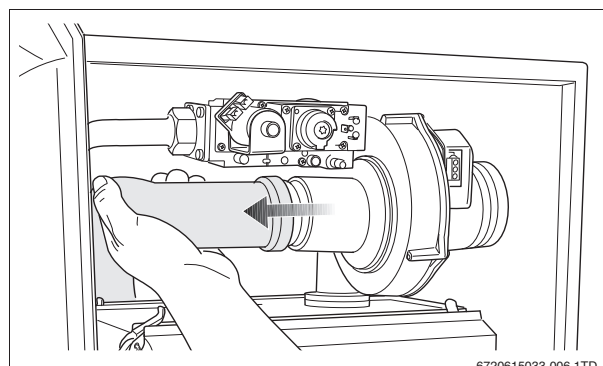

Fig. 5 Pulling the air suction tube from the fan
- ▶ Pull the air suction tube from the fan (→ fig. 5).